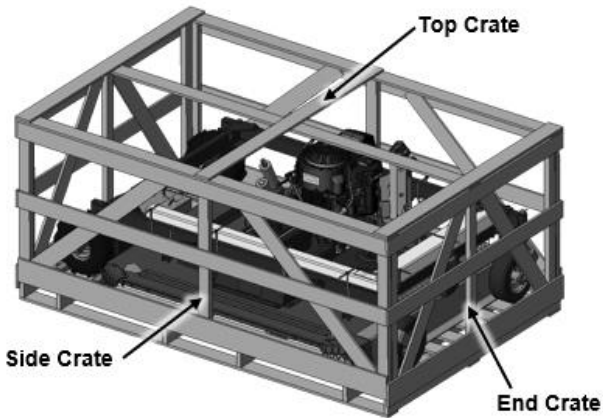

Figure 1
2. Remove Plastic and Bubble Wrap from outside of Wooden Box (**Figure 1**).